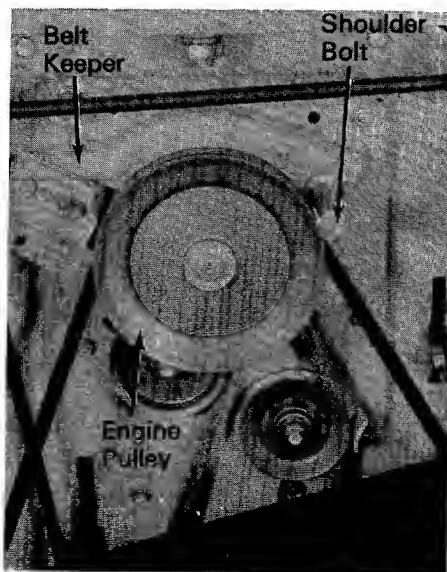

Figure 20.
2. Remove the belt keeper and shoulder bolt on the engine pulley. (See figure 20.)